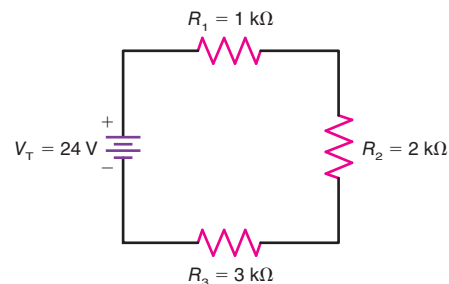

Figure 13-14
- 13.1 In Fig. 13-14, assume R_1 becomes open. How much is
- 13.2 In Fig. 13-14, assume R_3 shorts. How much is
- 13.3 In Fig. 13-14, assume that the value of R_2 has increased but is not open. What happens to